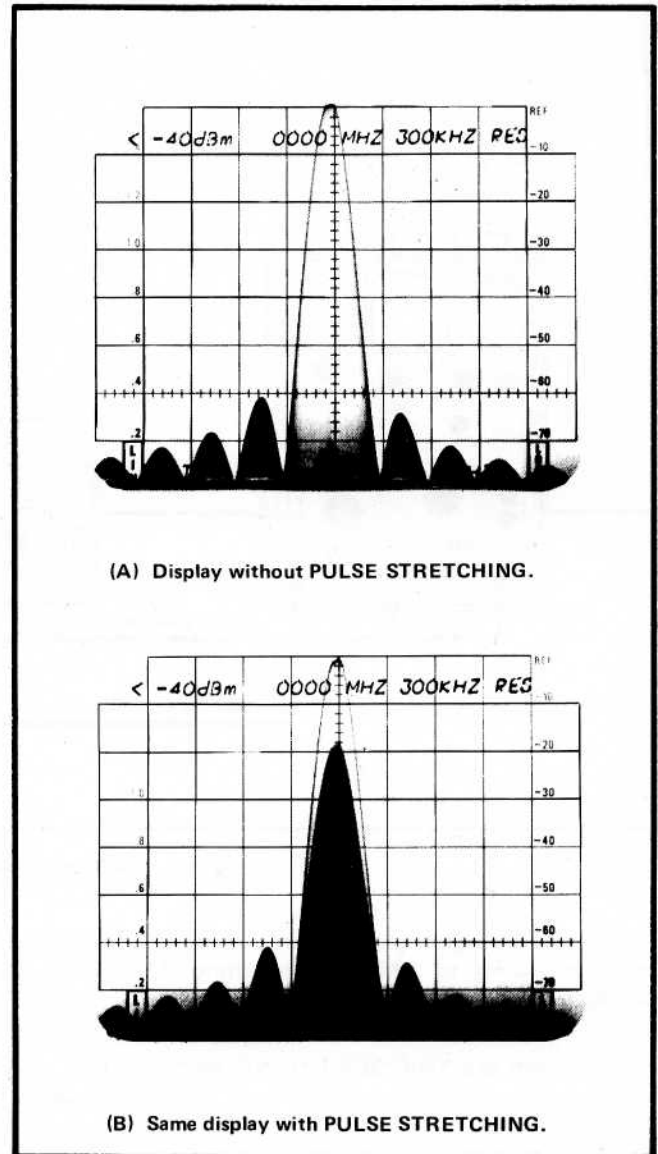

Fig. 3-8. Displays of a pulsed spectra that illustrate the effect of the PULSE STRETCHER.
e. Adjust the oscilloscope Intensity and the 7L13 BASELINE CLIPPER controls until the pulsed spectrum, about the 0 Hz response, can be observed (see Fig. 3-8). It may be necessary to adjust the output of the pulse generator to approximately 0.1 V; however, do not exceed 1 V peak.